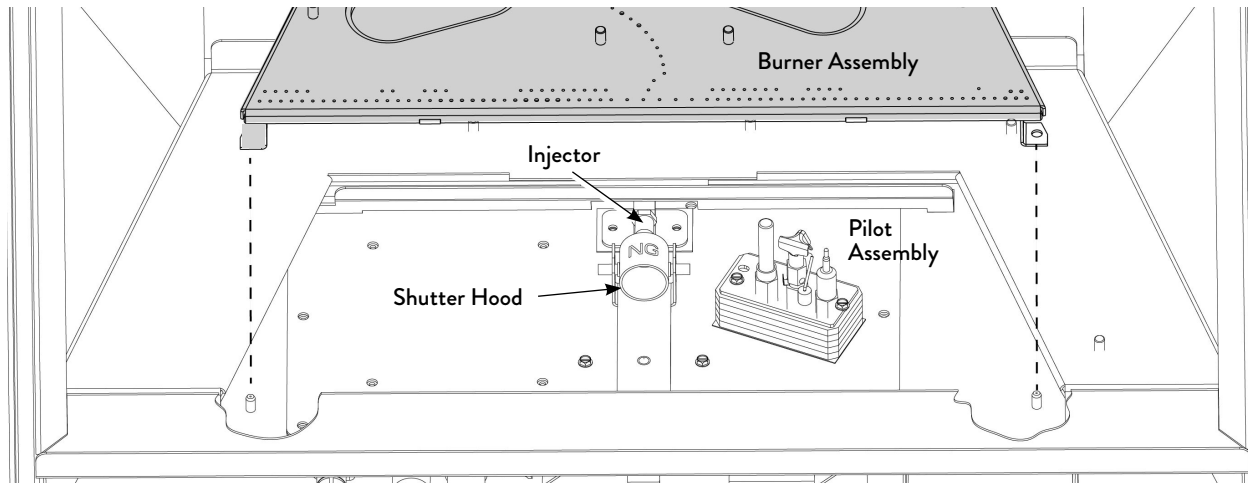

Figure 7.4. Burner and injector removal.
3. **REMOVE THE BURNER - Fig. 7.4**
4. **CHANGE THE BURNER INJECTOR:** Use a 1/2" or 13 mm open-end wrench or deep-well socket to remove the original burner injector from the brass fitting at the rear of the firebox. See fig. 7.4. Install the injector from the conversion kit and tighten.